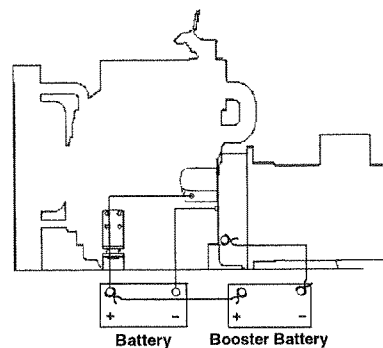

Figure 17: Battery Connections (NL488k shown).
3. First, connect positive (+) terminal of booster battery to positive (+) terminal of main battery. Then, connect negative (-) terminal of booster battery to ground on the engine block (see Figure 17).